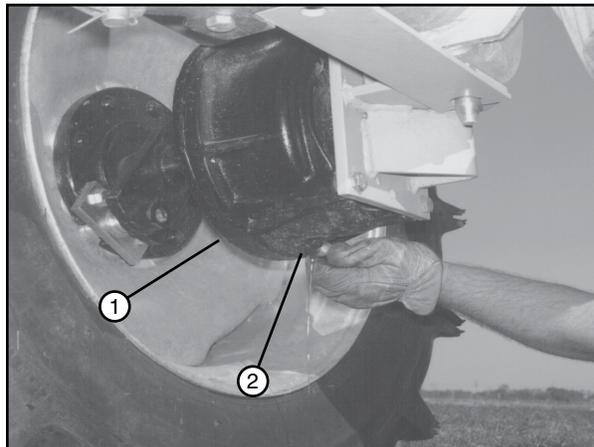

Figure 40-1 1. Wheel Gearbox
1. Remove the drain plug from the bottom of the wheel gearbox and drain the oil into a container. See figure 40-1.